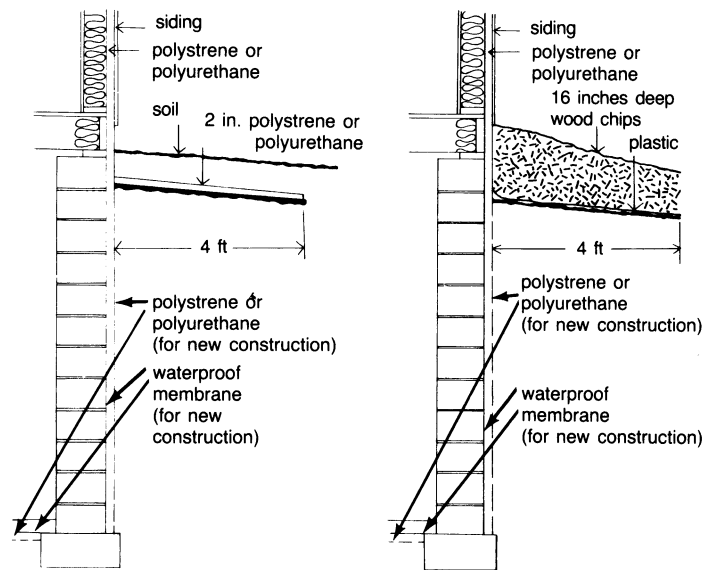
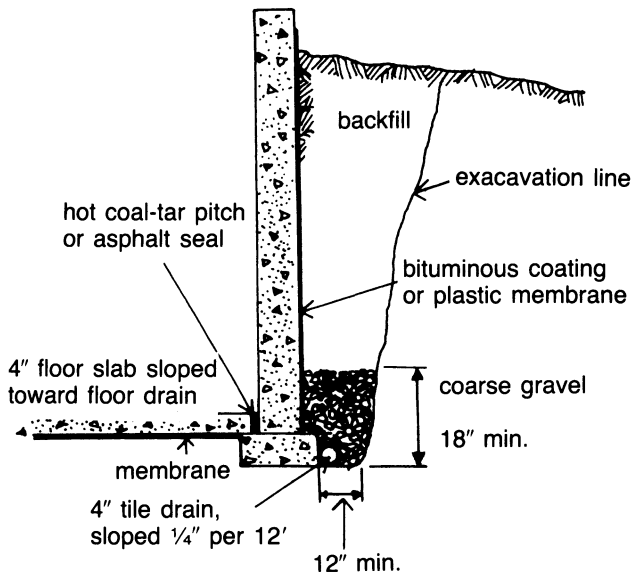

Figure 1: Basement wall frost-heaving protection options
Figure 7: Continuous waterproof membrane
Although little information is available concerning the potential risk of frost-heaving damage when basement walls are insulated, some authorities recommend precaution and suggest the following protection (see figure 1): 1) excavate along the entire perimeter of the foundation to a depth of at least 8 inches below the finished soil grade or 16 inches below the siding, whichever is greater, to 4 feet away from the foundation; 2) install 2 inches of rigid polyurethane or polystyrene¹⁴ from the siding to the bottom
- In extremely severe situations, it will be necessary to excavate the exterior of the foundation and subsequently to seal the exterior foundation wall with a continuous waterproof membrane (see figure 7) as well as to install exterior drain tile to a sump and sump pump; a homeowner facing this unpleasant task should consider insulating the exterior of the foundation wall before back-filling (see figure 1). If this action does not relieve floor moisture conditions, the floor may need to be repoured over a continuous waterproof membrane as noted in footnote 19.